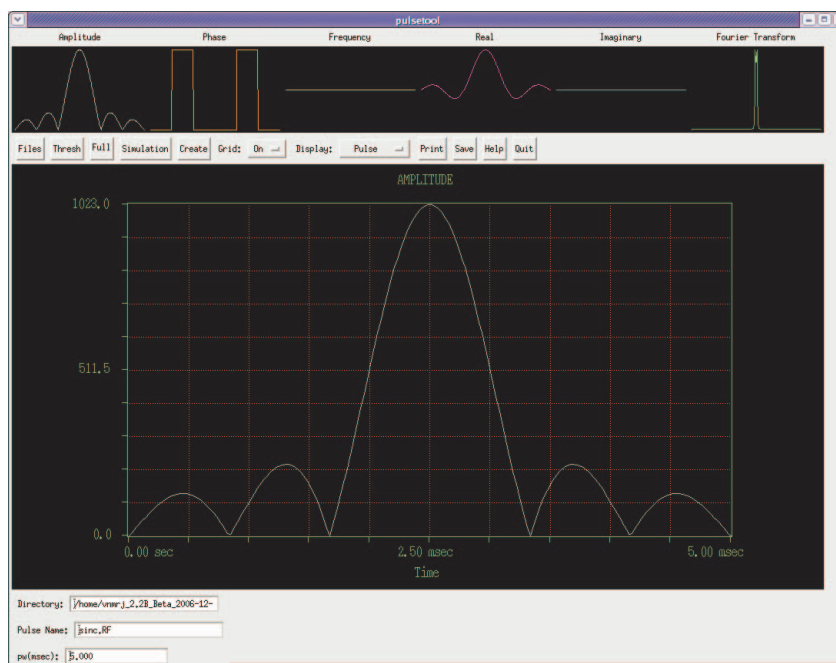

Figure 105. Pulsetool Spin Simulation Window
The Pulsetool starts, see Figure 105.
3. Start Pulsetool, see Figure 105, using one of these procedures: